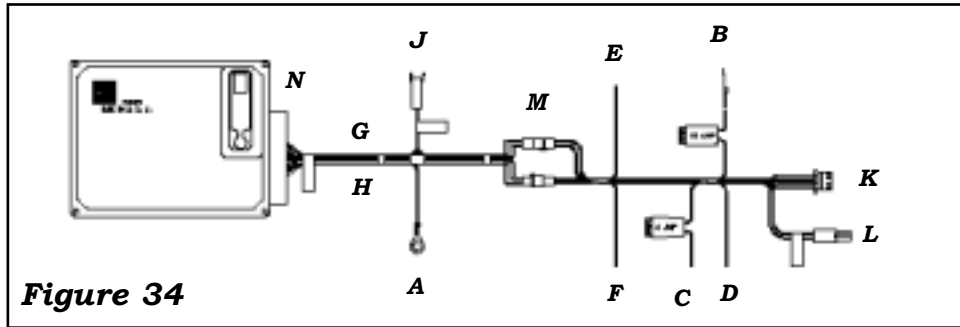

Figure 34
- B.** STRAIGHTEN THE **CRUISE HARNESS** AND FIND THE **2- & 4-PIN** MATING CONNECTORS. SEPERATE THE **2- & 4-PIN** CONNECTORS. A SMALL SCREWDRIVER MAY BE NEEDED (SEE **K** IN **FIGURE 34**).
UTILIZE **FIGURE 34** TO MAKE THE NECESSARY WIRING HARNESS CONNECTIONS TO YOUR VEHICLE.
THE **GRAY VEHICLE SPEED SIGNAL (VSS)** WIRE IS HOW THE **GLOBALCRUISE** “KNOWS” HOW FAST THE VEHICLE IS MOVING. THE **PULSES PER MILE/KILOMETER (PPM/PPK)** ARE A CHARACTERISTIC OF THE VEHICLE AND MUST BE SET ACCORDINGLY (SEE **PAGE 7**). IF **VSS** CANNOT BE LOCATED ON THE VEHICLE THEN AN AUXILIARY ROAD SPEED SENSOR MUST BE USED [**SIGNAL GENERATOR** OR **MAGNET & COIL PICK-UP KIT (KIT# 250-4165)**]. IF YOU USE AN AUXILIARY SPEED SENSOR, PLUG IT INTO AUXILIARY SPEED SENSOR CONNECTOR (**G** IN **FIGURE 34**) AND TRIM THE **GRAY VSS** WIRE AS NOT TO PICK-UP ANY STRAY SIGNALS.
THIS CONNECTOR IS USED IN CONJUNCTION WITH THE **4-PIN SWITCH CONNECTOR (H** IN **FIGURE 34)**. THE **2-PIN SWITCH CONNECTOR (J** IN **FIGURE 34)** IS UTILIZED BY CONTROL SWITCHES WHICH REQUIRE AN ADDITIONAL POWER AND GROUND SOURCE SUCH AS THOSE CONTAINING AN **LED** INDICATOR LIGHT OR **ROSTRA RADIO FREQUENCY (RF)** MODELS.